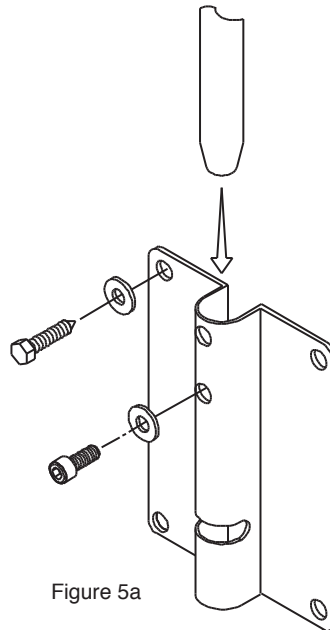

Figure 5a
Step 1: For installation where pan angle adjustment are not desired, attach the wall mounting plate to the wall with the open center slot towards the floor using the appropriate hardware for the wall structure (Figure 5a).
Step 3. Lift the assembled speaker with the support arm up to the second hole from the top of the wall mounting plate. Insert the support arm into the top end of the wall mounting plate barrel. Line up the threaded hole of the support arm with the second hole from the top. Insert the included socket screw and a flat washer, then tighten permanently (Figure 5a and 5b).